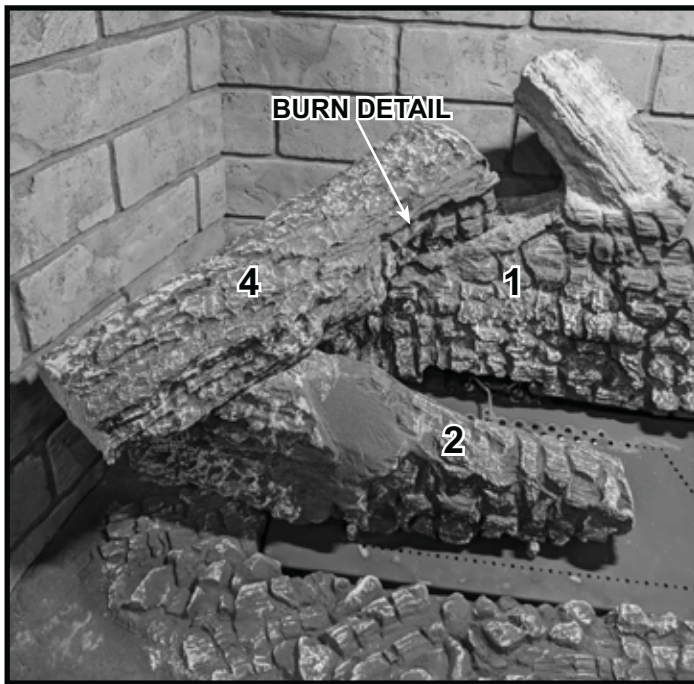

Figure 8 Place Log #4
**Log #4:** Place Log #4 with the end that shows burn detail on the flat area located on Log #1. Place the other end on the flat area on Log #2 as shown in Figure 8. For reference, flat areas are shown in Figure 6.